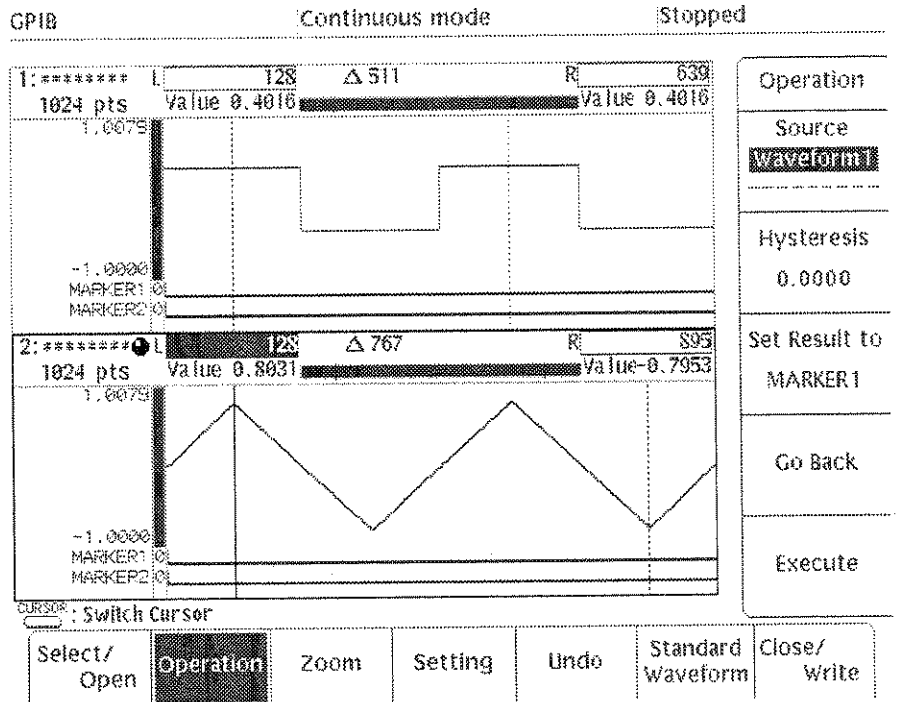

Figure 4A-72: Menu Display When Compare... is Selected
- Step 9:** Select **Compare...** from the fourth page of the side menu (**More 4 of 4**). Figure 4A-72 shows the menu with the **Compare...** item selected.